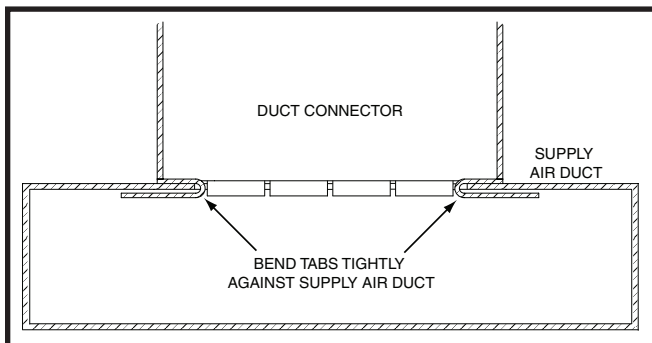

Figure 11. Duct Connector Tabs
8. Bend both tabs up 90° on the mounting plate. See Figure 11 \(page 9\).